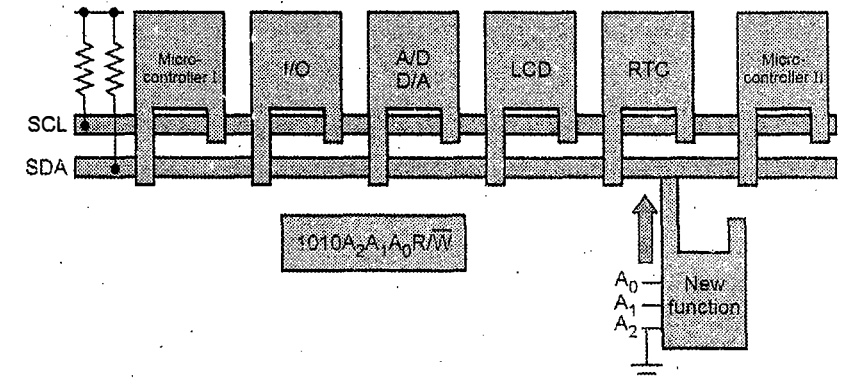

Fig. Q.4.1 Connection to serial devices on I2C bus
- It is typically used for attaching lower-speed peripheral ICs to processors and microcontrollers in short-distance, intra-board communication as shown in Fig. Q.4.1.